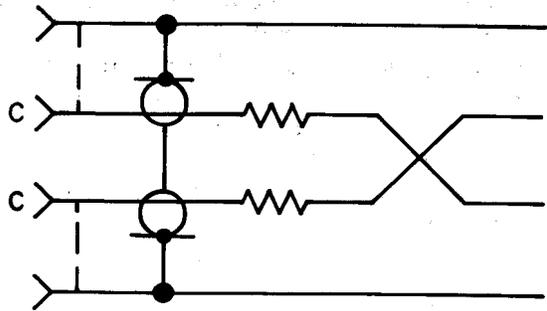

Fig. 18—516A Jack
2.15 516A: The 516A is a twin coaxial-type jack (Fig. 18) which consists of a pair of coaxial jacks held rigidly in a metal cover. The 516A jack is designed for the 337 or similar-type plugs and 754-type cables. The mounting lugs on the two individual jacks may be positioned for mounting so as to extend in the same direction, side-by-side. This jack is used in the baseband switch bays of the TH Radio System.